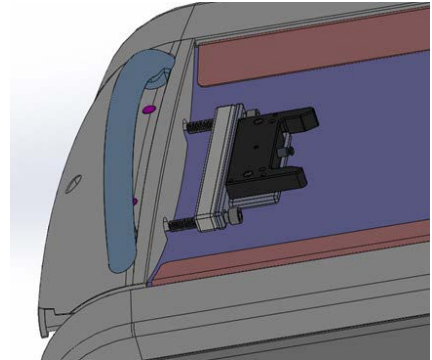

Fig. 18
The Foot End Latch Assembly secures to the Canon CT using (2) M12 bolts into the CT Cradle Handle Assembly (Fig. 18).